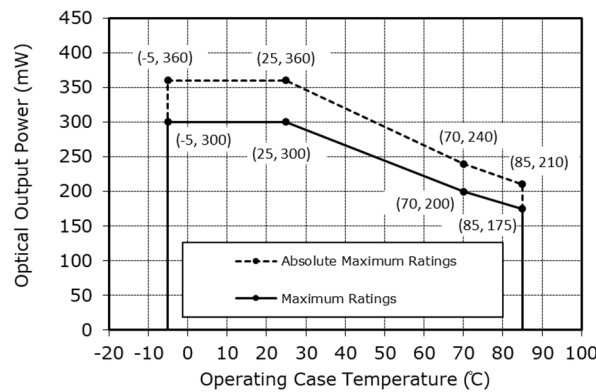

Figure 1. Derating Characteristics
1 The maximum rating provided in Figure 1 should not be exceeded.
- Since the lifetime of the LD will become shorter as the operating current ( $I_{OP}$ ) and/or the optical output power becomes larger, the maximum ratings provided in Figure 1 should not be exceeded.
- This LD is a semiconductor device that has a high current density during operation in the emission layer. Exceeding the Absolute Maximum Ratings may damage the LD. The circuit must be designed to ensure that the Absolute Maximum Ratings (see Absolute Maximum Ratings and Figure 1) are not exceeded even if the LDs are operated only for a short period of time.